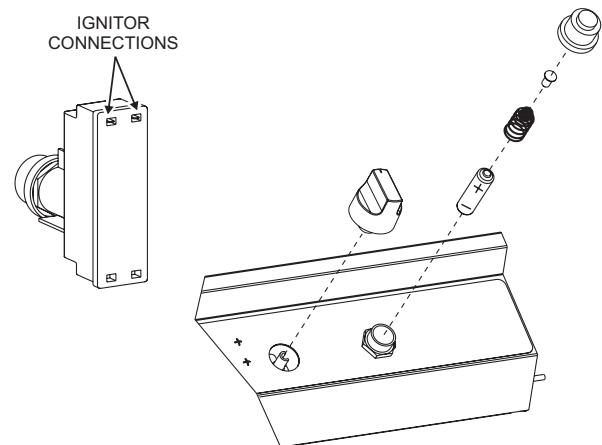

Figure 30
- Re-attach the ignitor to the control panel, then tighten nut and insert AA battery, positive side up, and replace ignitor button. **See Figure 30.**